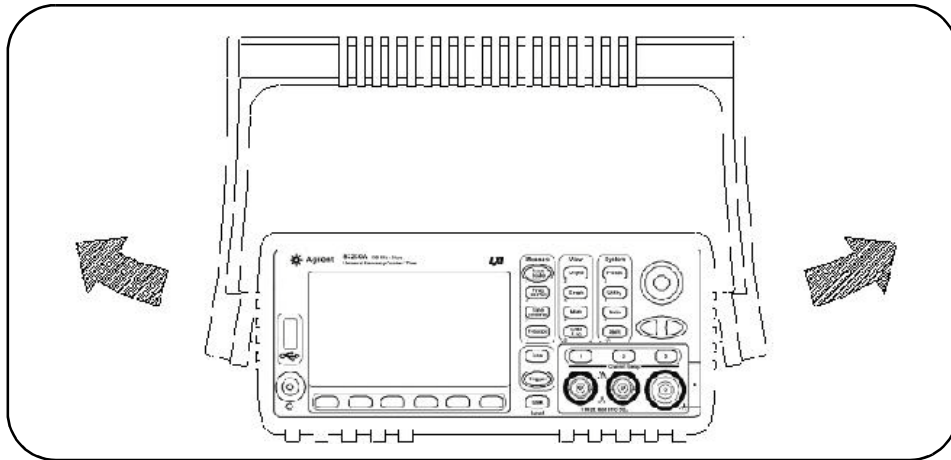

Figure 1. Removing the Handle.
2. Remove the handle by rotating it to the vertical position and pulling the ends outward as shown in Figure 1.